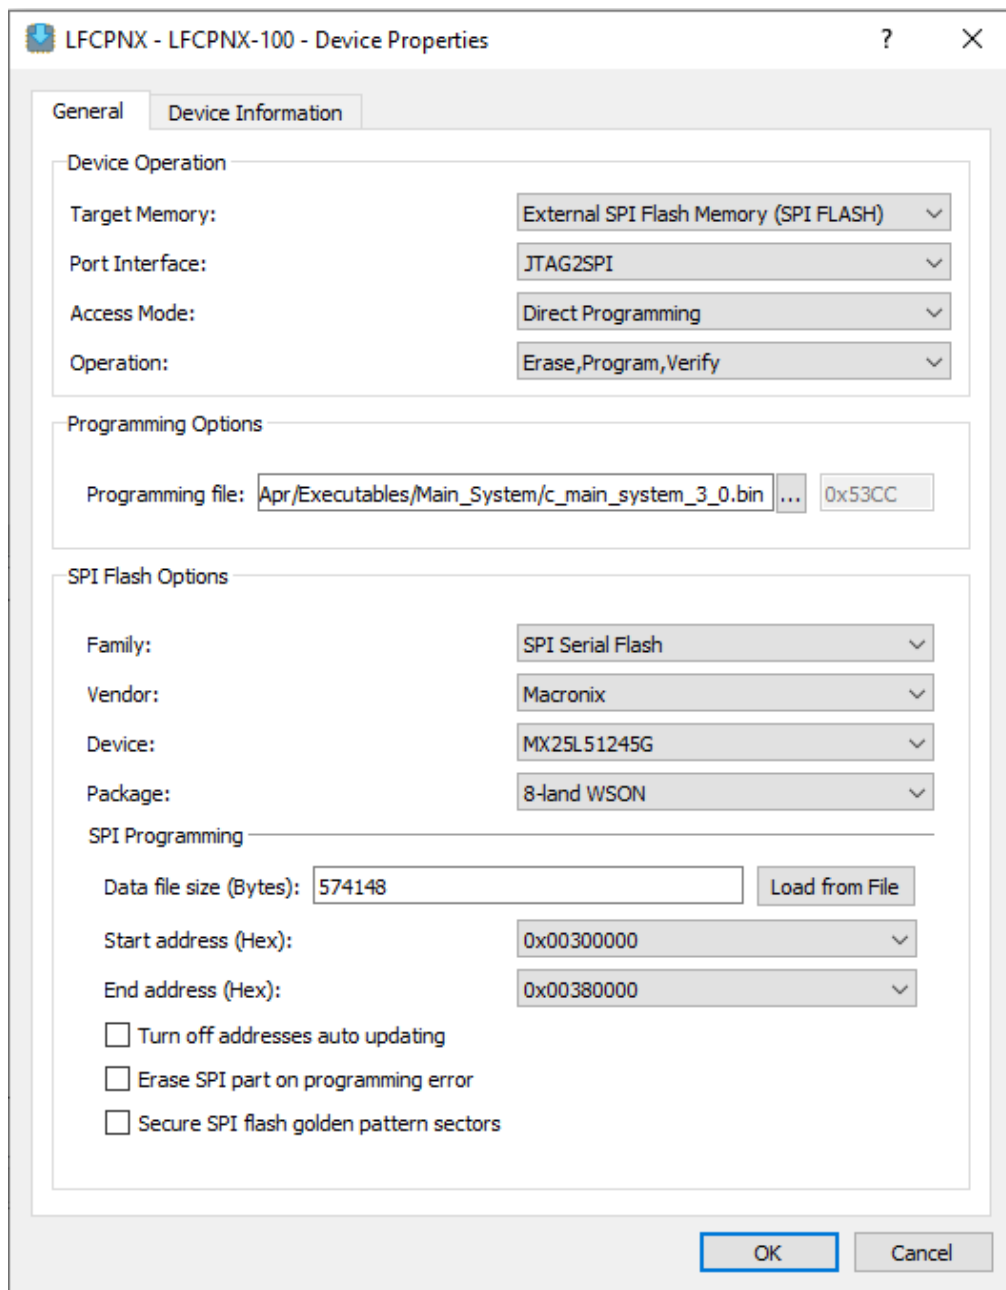

Figure B.8. Radiant Programmer - Binary Flashing Settings (Main System)
12. To program the firmware, select the options as shown in Figure B.8.